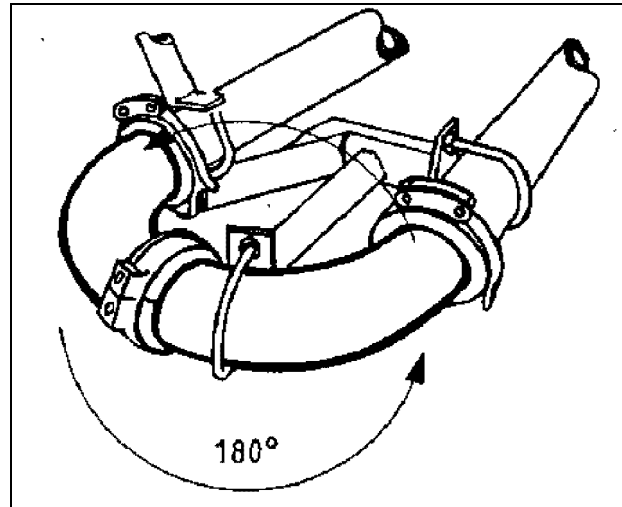

Fig.: 8
- Turn delivery tubes and bends 180° from the inlet side to the outlet side after 50 % of their expected lifetime (Fig.: 8).